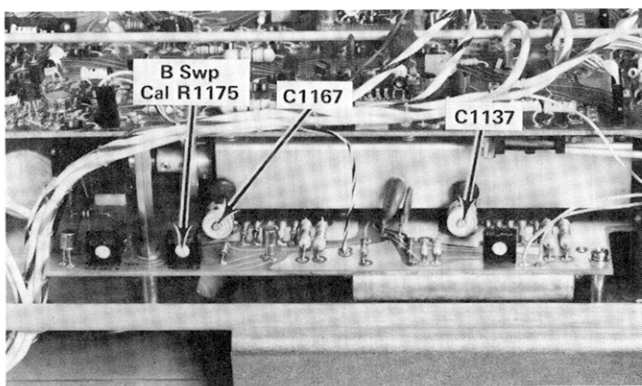

Fig. 5-31. Location of High Speed Timing and B Sweep Cal adjustments.
d. ADJUST—B Sweep Calibration adjustment, R1175, (see Fig. 5-31) for 1 time marker/division.
d. ADJUST—A High Speed Timing adjustment, C1137, (see Fig. 5-31) with the low-capacitance screwdriver, for one time marker/division.
e. ADJUST—B High Speed Timing adjustment, C1167, (see Fig. 5-31) for one time marker/division.